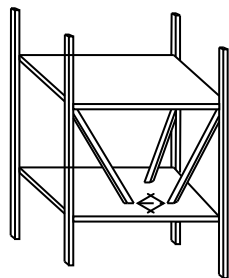
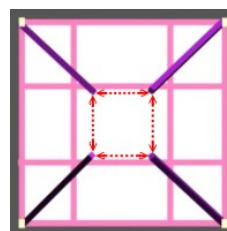

Figure 9
Figure 10
4.8.2 The passage should be kept in all directions. That is to say, the vertical cross sections in all directions are not fully blockaded. For example, the projection of Figure 9 is shown as Figure 10. The dashed lines shown in Figure 10 are the passages.
4.8.4 The interior clearance in any direction must be not less than 5 cm (Figs. 9 and 10).